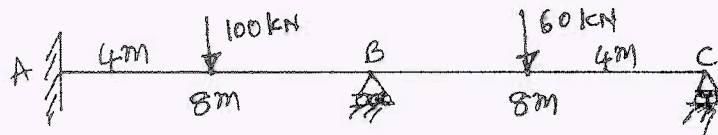

Fig.Q.7
- 7 Analyze the continuous beam shown in Fig.Q.7 using flexibility matrix method. Draw BMD and SFD. (20 Marks)